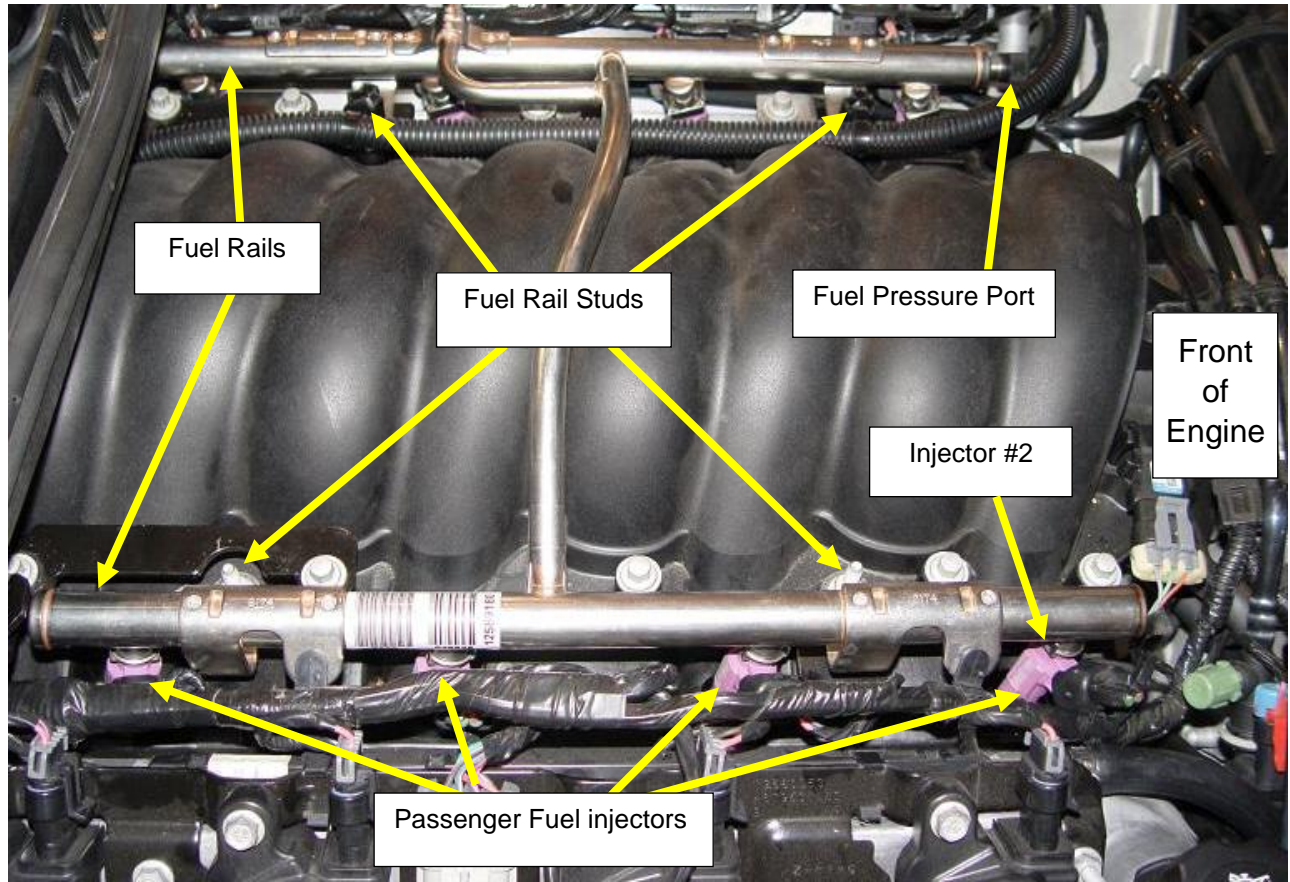

Figure 2
- Locate the #2 cylinder Fuel Injector Plug (front passenger's side), as shown in **Figure 2**.
2. Depressurize the fuel system by removing the cap on the front of the driver's side fuel rail and depressing the Schrader valve at the fuel pressure port (**Figure 2**). Drain the pressurized fuel in to a suitable container. Once the pressure is out of the fuel system, replace the protective cap on the fuel rail.
4. Remove the wiring harness mounting connectors from the LH fuel rail studs. Disconnect the (x8) fuel injector harness electrical connectors from the fuel injectors. Remove the bolts from the rear fuel rail brackets. The brackets can be swivelled out of the way to access the fuel rails and fuel rail bolts (**Figure 2**).